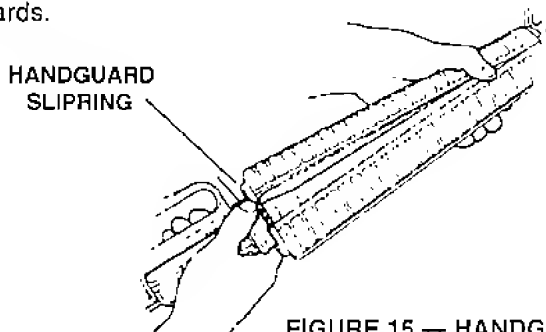

FIGURE 15 — HANDGUARD REMOVAL
13. Handguard Removal. Pull back on handguard slip-ring until it is clear of both sections of handguards and remove them. (See Figure 15)